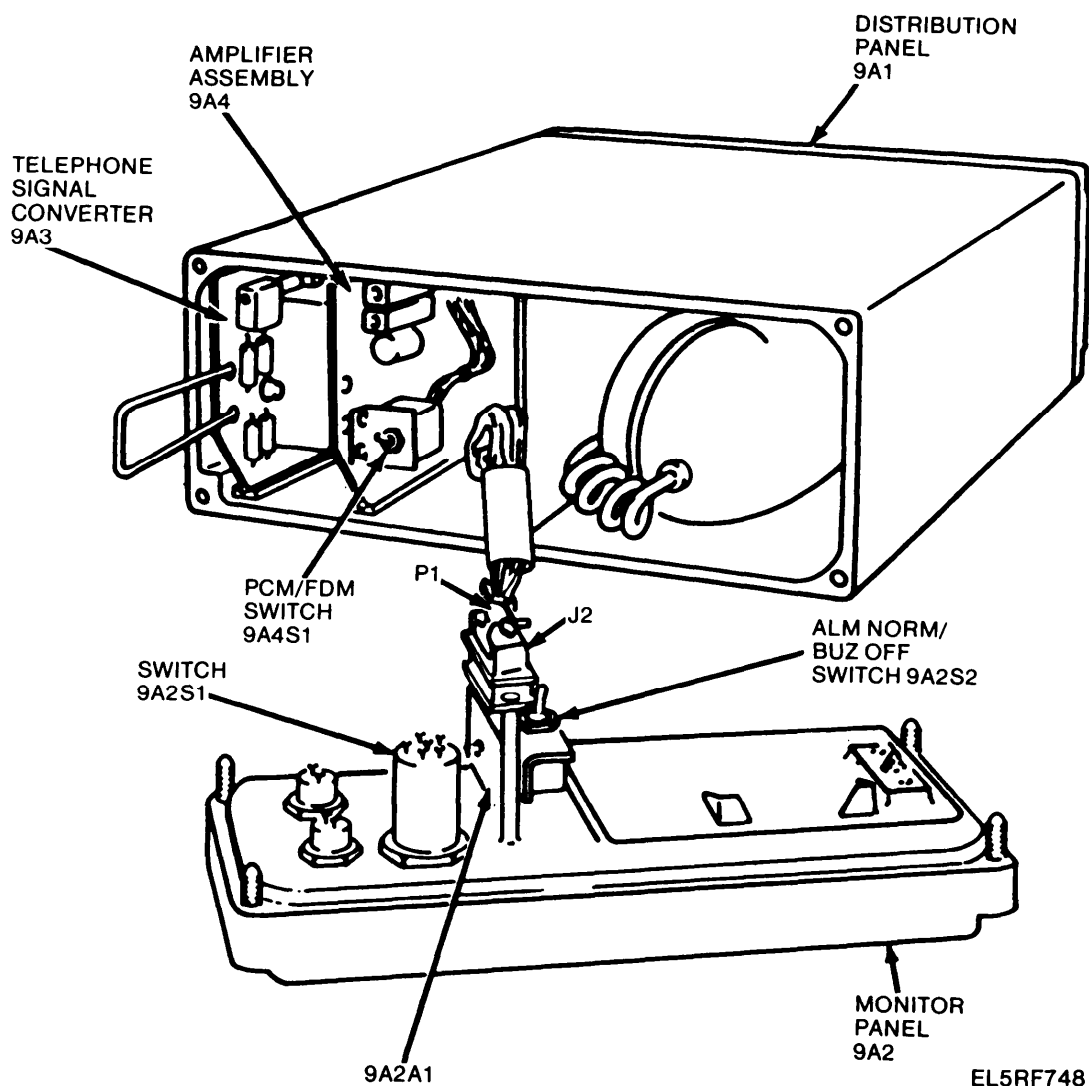

Figure 3-136. Receiver-Transmitter Order Wire, Unit 9.
(1) Using the multimeter, check resistances to validate operation of switch 9A2S1 (fig. 3-136) as follows: